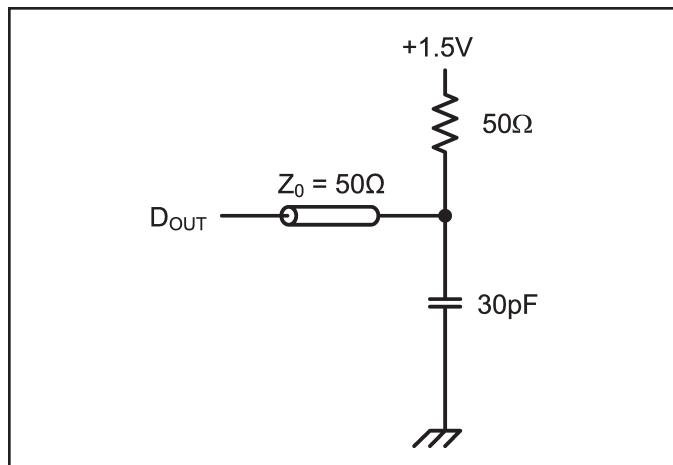

Figure 1. AC Output Load
8. Transition is measured $\pm 200\text{ mV}$ from steady state voltage prior to change, with loading as specified in Figure 1. This parameter is sampled and not 100% tested.
Output Load	See Figures 1, 2, 3